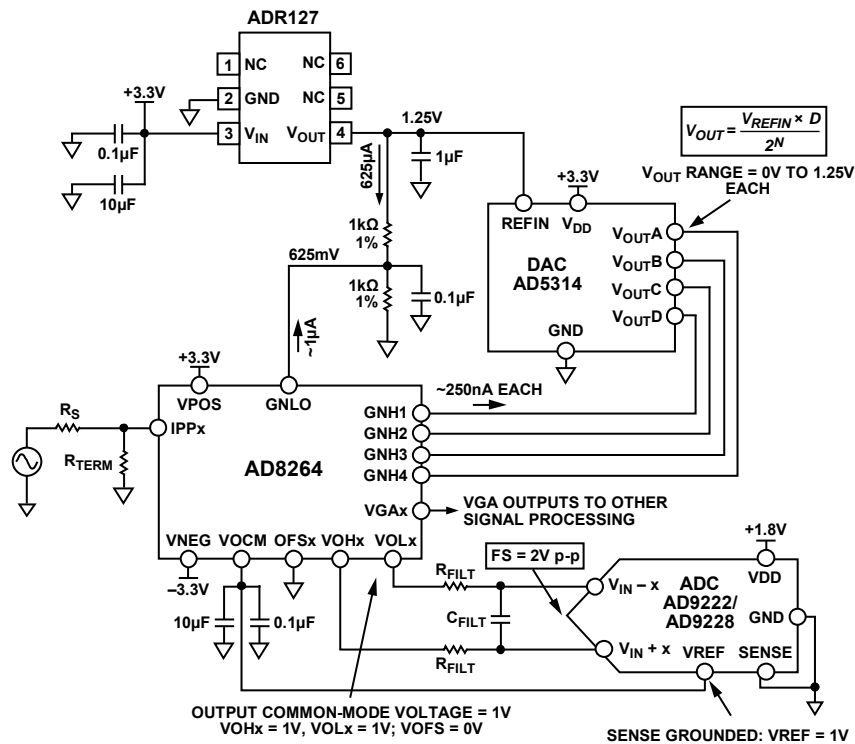

Figure 112. Application Concept of the AD8264 with the AD5314 10-Bit DAC and the AD9222/AD9228 12-Bit ADC
The AD8264 is particularly well suited for use in the analog front end of medical PET imaging systems. Figure 112 shows how to use the AD8264 with the AD5314 (a 4-channel, 10-bit DAC) and the AD9222/AD9228 (an octal or quad, 12-bit ADC, respectively). The DAC sets the gain of the AD8264. Note that the full gain span of 24 dB is achieved with this setup because the gain control input range of the AD8264 is very close to 1.25 V. The GNLO pin must offset by  $1.25/2 = 625$  mV because the gain control input is bipolar around the voltage applied at GNLO. This is done with two 1 k $\Omega$ , 1% resistors. The approximately 1  $\mu$ A of bias current flowing from the GNLO pin does not contribute a significant error because the basic gain error of the AD8264 is the limiting factor.
Figure 112 also includes the DAC output equation, which indicates that the output can vary between 0 V and  $V_{REF} = 1.25$  V.
The single-ended-to-differential amplifier of the AD8264 amplifies the VGA output signal by 6 dB and can provide the required dc bias of the AD9222/AD9228, as shown in Figure 112. The ADC is connected with the default internal reference because the SENSE pin is grounded. With this connection, the AD9222/AD9228 VREF pin is an output that provides 1 V; this is then connected to the VOCM input of the AD8264, which sets the output common-mode voltage of the VOHx and VOLx pins to 1 V. This voltage is very close to the recommended optimal value of  $V_{DD}/2 = 0.9$  V. With this configuration, the ADC inputs are set to a full-scale (FS) of 2 V p-p.
The dc connected concept example in Figure 113 is an application with the 40-channel AD5381, 3 V, 12-bit DAC. The main difference between this example and Figure 112 is that, for the same ADR127 1.25 V reference, the full-scale output of the DAC is from 0 V to  $2 \times V_{REFIN} = 2.5$  V. Two options for gain control include the following:
- Use the same circuit as in Figure 112 but use only half the DAC output voltage from 0 V to 1.25 V. This is the simplest solution, requiring the fewest extra components. Note that the overall gain resolution increases by one bit to 11 bits over the 10-bit AD5314.
A convenient method of verifying and customizing the signal chains shown in Figure 112 and Figure 113 is by ordering the corresponding evaluation boards available on [www.analog.com](http://www.analog.com). The AD8264-EVALZ is a platform through which the user can quickly become familiar with the features and performance capabilities of the AD8264. See the Evaluation Board section for more information.